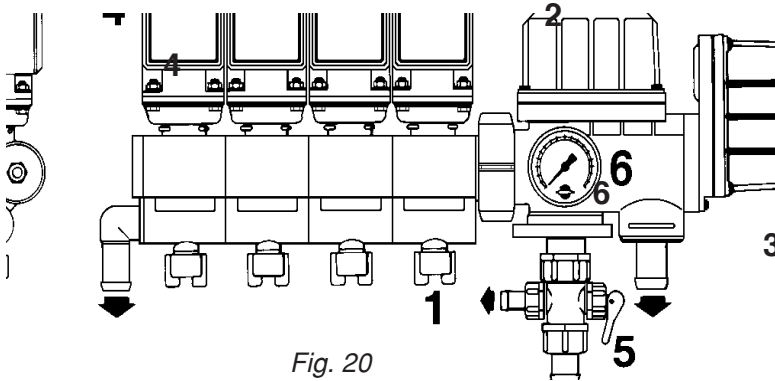

Fig. 20
6.8 Adjustment of the EC- Controls (fig. 20,21)